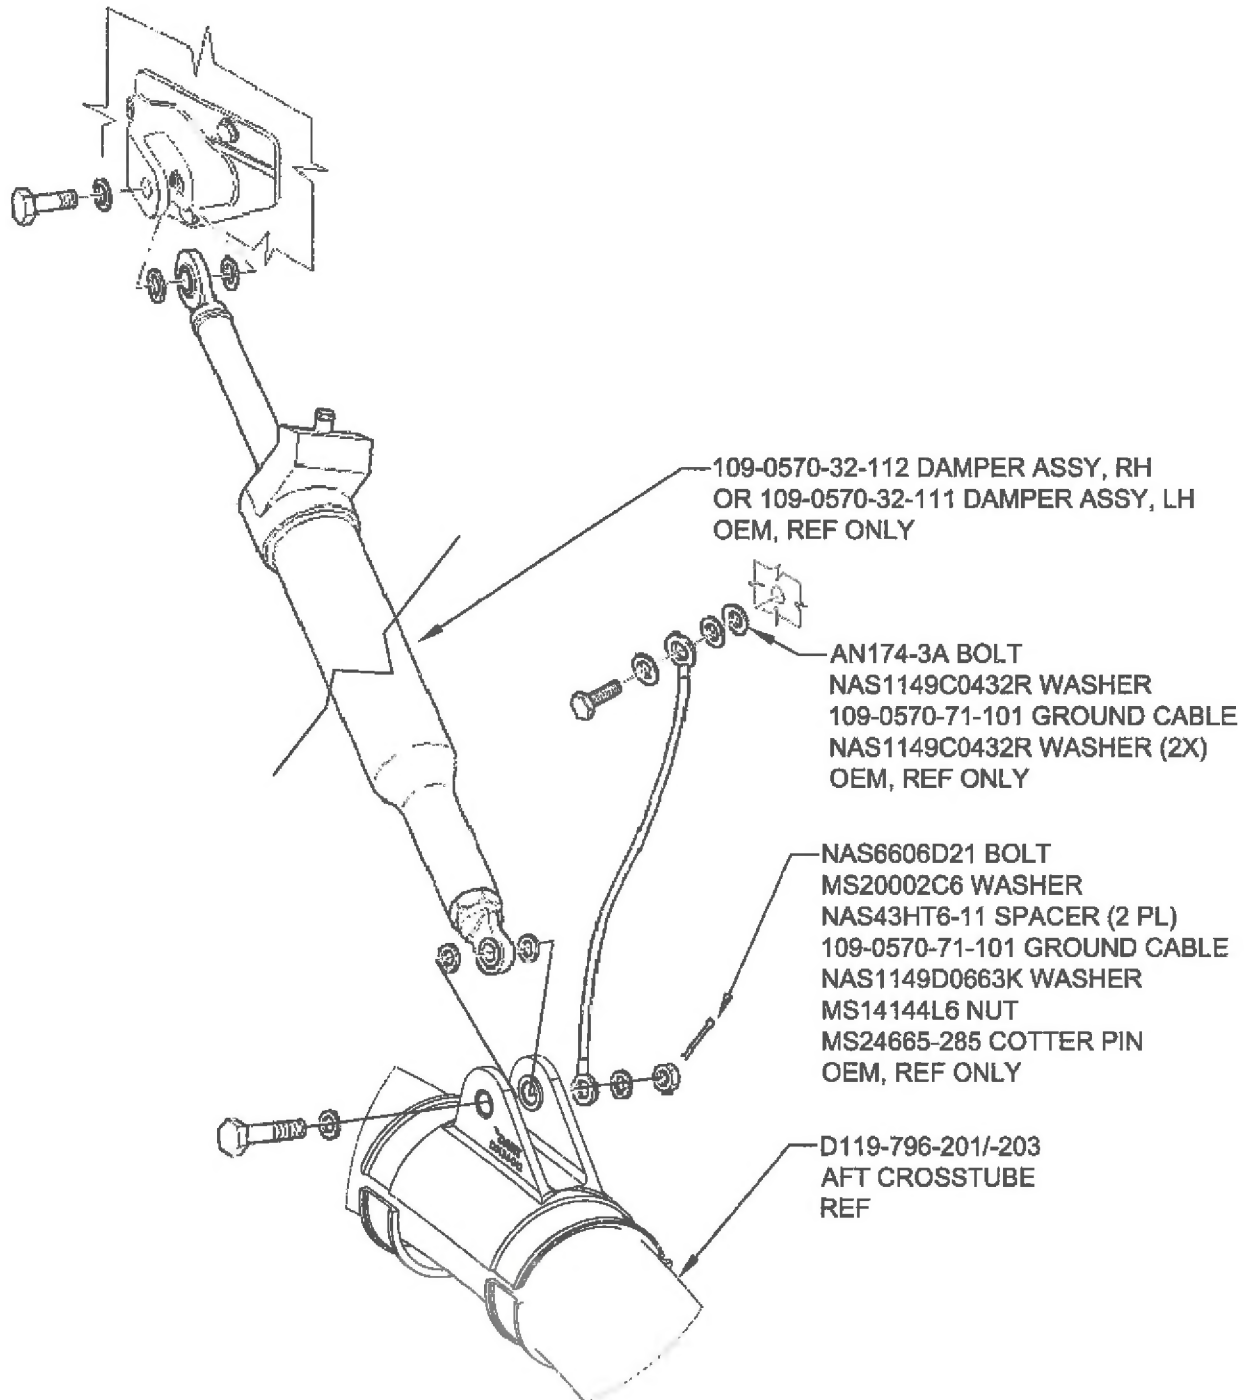

Figure 3.5 – D119-796-201/-203 Aft Crosstube Damper Installation
- 3.1.6 Install OEM 109-0570-32-111/-112 Damper Assemblies and grounding strap in accordance with Aircraft Maintenance Manual (reference Figure 3.5).